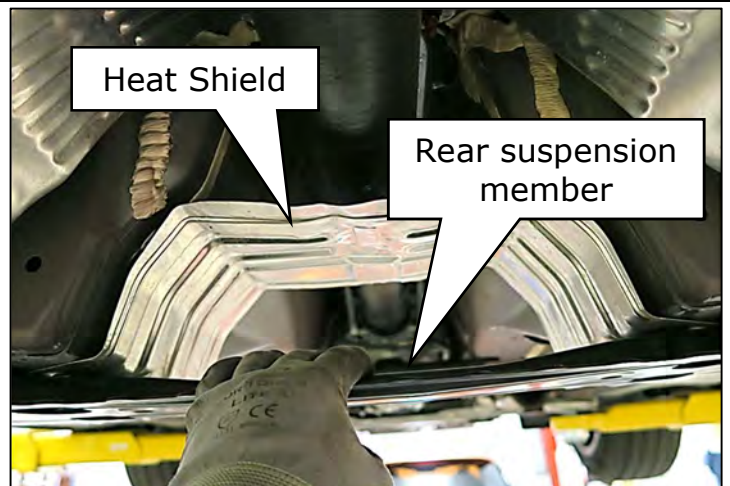

Figure 128
- Pull downward on the rear suspension member and slide the heat shield into position as shown in Figure 128